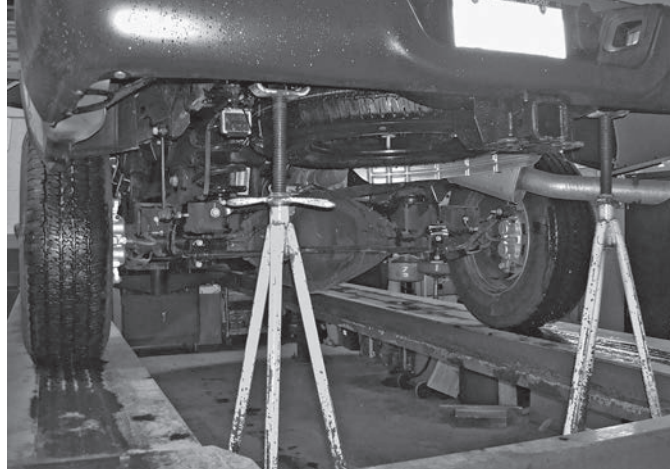

fig. 2
1. Raise the vehicle and support the frame with jack stands, drop the axle down to make room for the air spring assemblies to be put into position between the frame and axle (Fig. 2).